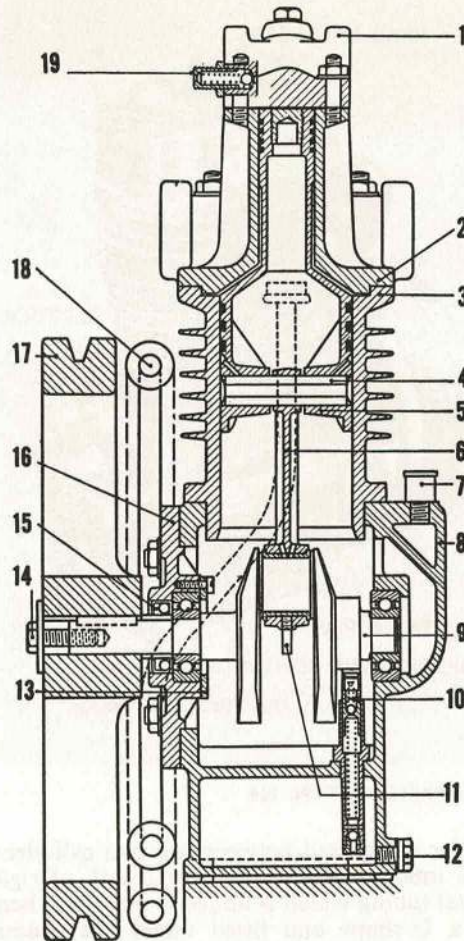

Fig. 2. A.I.D. COMPRESSOR, 2.A.S.6.
4. This compressor is a vertical, air cooled, two-stage type. It has a capacity of 4 cubic feet per minute at 1,000 r.p.m. and a normal pressure of 450 lb per sq. in. The high pressure cylinder forms an extension, of smaller diameter, to the low pressure cylinder, and a single piston operates in both cylinders (Fig.2).
6. The intercooler pipe is fitted to convey air from the low pressure to the high pressure stage. The intercooler relief valve (Fig. 2) acts as a safety valve to prevent a build-up of pressure in the intercooler pipe. A filter is fitted at the entrance to the low pressure inlet valve.